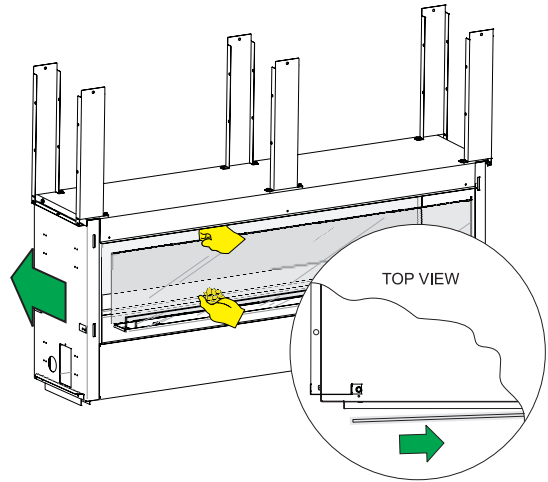

Figure 35
3. Replace the glass front into the fireplace by placing the right side into the slots in the firebox. Carefully angle in the left side of the glass and then slide the glass to the left. Settle the glass into the slots by gently lowering it. **See Figures 35 - 37.**